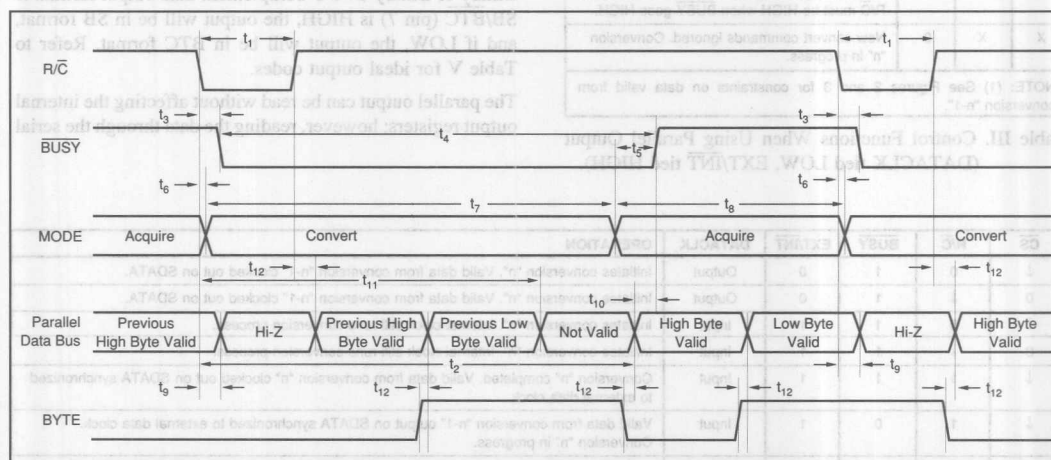

FIGURE 2. Conversion Timing with Parallel Output ($\overline{\text{CS}}$ and DATACLK tied LOW, EXT/INT tied HIGH).
The ADS7806 will begin tracking the input signal at the end of the conversion. Allowing 25 μ s between convert commands assures accurate acquisition of a new signal. Refer to Tables III and IV for a summary of \overline{CS} , R/\overline{C} , and $BUSY$ states and Figures 2 through 6 for timing diagrams.
NOTE: (1) See Figures 2 and 3 for constraints on data valid from conversion "n-1".
After conversion 'n' has been initiated, valid data from conversion 'n' will be available on D7-D0 (pins 9-13 and 15-17). $\overline{\text{BUSY}}$ going high can be used to latch the data. Refer to Table VI and Figures 2 and 3 for timing constraints.
After conversion 'n' has been initiated, valid data from conversion 'n-1' can be read and will be valid up to 12 μ s after the start of conversion 'n'. Do not attempt to read data beyond 12 μ s after the start of conversion 'n' until $\overline{\text{BUSY}}$ (pin 24) goes HIGH; this may result in reading invalid data. Refer to Table VI and Figures 2 and 3 for timing constraints.